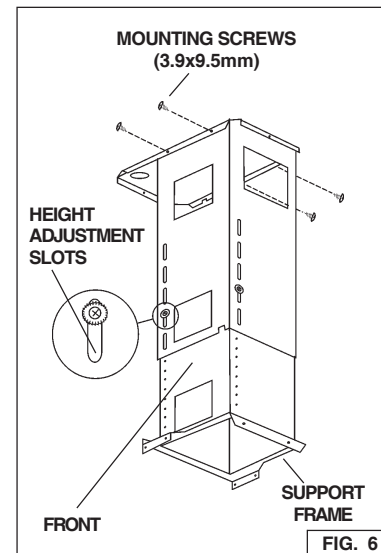

FIG. 6
4. Fix the support frame to the support frame bracket with (4) 3.9x9.5mm mounting screws. Fig. 6.